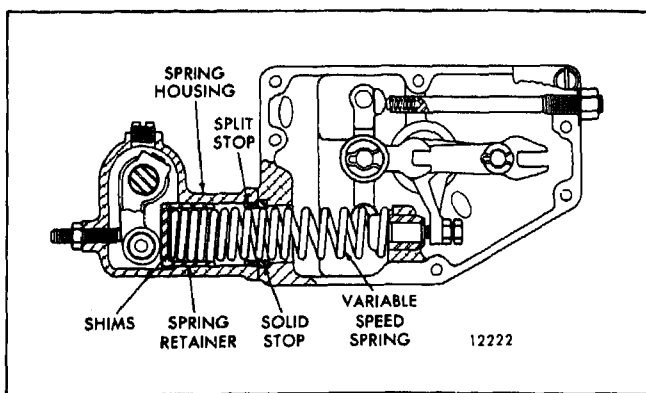

Fig. 6 - Location of Shims and Stops
- Refer to Table 1 and determine the stops or shims required for the desired full-load speed. A split stop can only be used with a solid stop (Fig. 6).